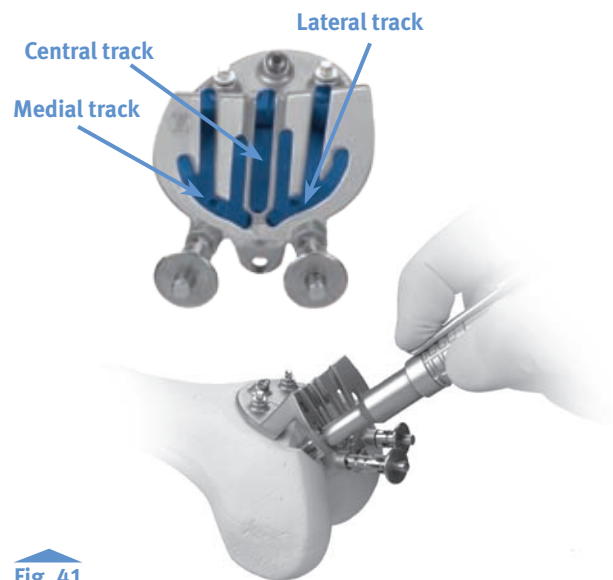

Fig. 41
- Mill the entire medial track (all tracks in medial zone) (Fig. 41).